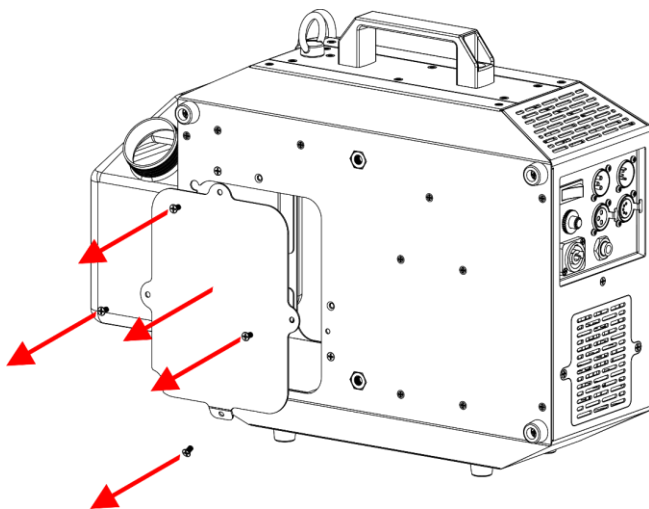

Fig. 14
- 09) Remove the 4 screws of the metal tank plate on the backside of the device and remove the metal tank plate, as shown in Fig. 14.